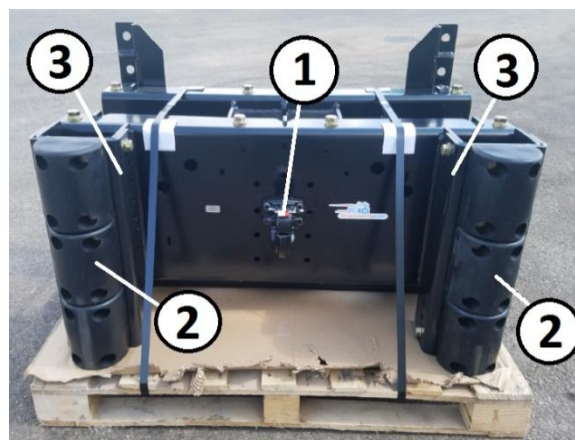

Figure 19. Bumper Updates
Note: Effective with s/n 1135, two additional rubber bumpers are added to the design. Also, the bar at the rear is replaced with a pintle hitch. Additional holes are provided for the pintle hitch. If adding these components to previous bumpers, additional holes will need to be drilled in the base plate for the pintle hitch. The additional bumpers can be added using two (2) new RC125046 Plates for mounting. See Figure 19.